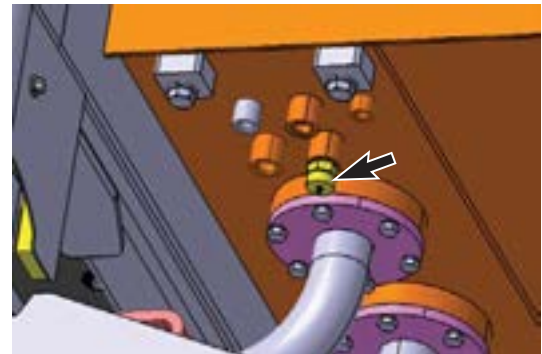

Figure 11
B. Drain hydraulic fluid using drain plug (unscrew). (without oil pump) (Figure 11)